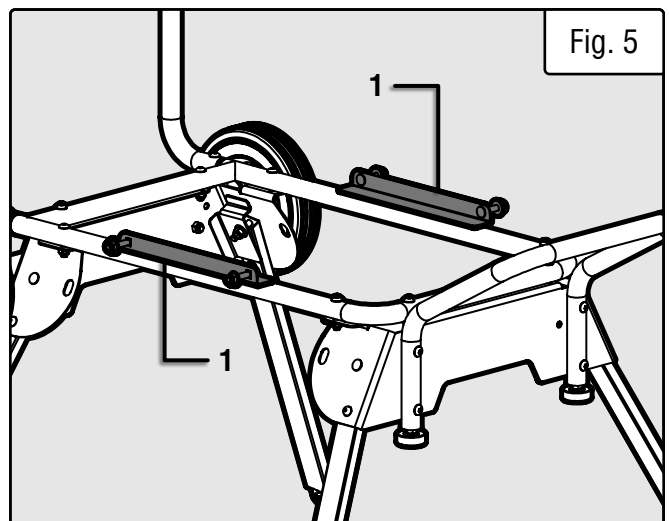

Fig. 5
1. Place the saw onto the saw body. You can place it facing either direction, so long as the horizontal mounting holes (Fig. 5 - 1) on the base of the frame are aligned with the rectangular holes in the saw body bracket. Secure the saw to the base using four M8x40 partially-threaded carriage bolts, 8mm washers, and M8 lock nuts. Tighten using the included 5mm hex wrench and 13mm wrench.